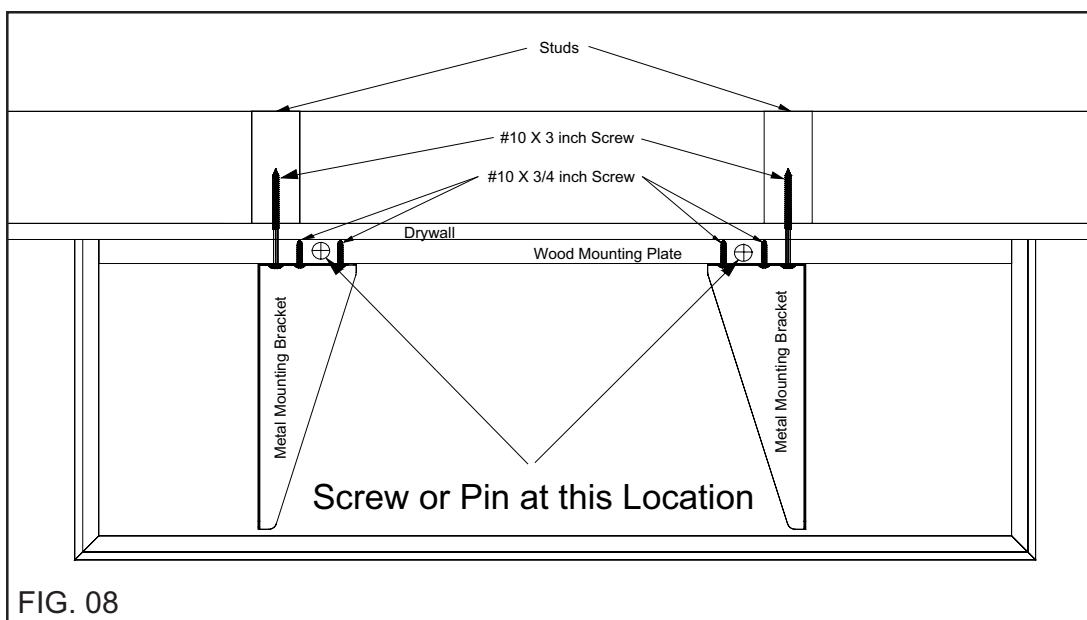

FIG. 08
Step 8: When you are satisfied that the **Floating Shelf** is located correctly, screw or pin the **Floating Shelf** to the **Wood Mounting Plate** as shown. Drill two 1/8 inch pilot holes in the **Floating Shelf** at the locations shown in figure 08 when using the two **#6 x 3/4 inch Flat Head Screws** provided.